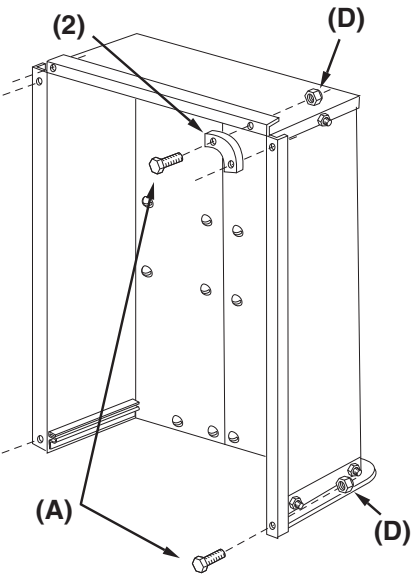

Figure 6
**STEP 6 (SEE FIGURE 6):** Attach the front corner caps (2) to the front of the cart bed using four 1/4" x 5/8" hex bolts (A) and 1/4" nylock nuts (D). Secure the tailgate reinforcement bracket to the cart bed using two 1/4" x 5/8" hex bolts (A) and 1/4" nylock nuts (D).